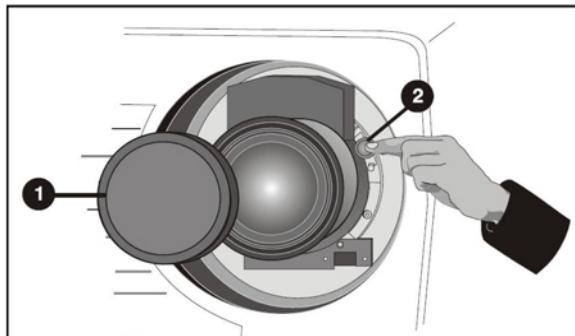

Figure 3-1 Lens Cap Placement
1. Install the front lens cap. (Figure 3-1)
2. Press the lens button. (Figure 3-1)